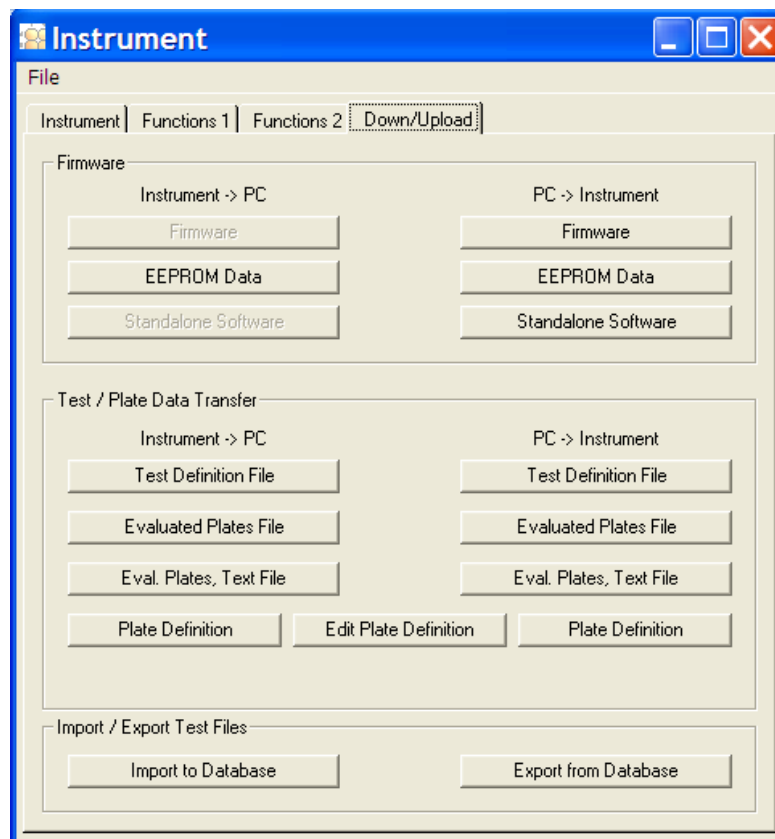

Figure 5-3: Down/Upload – Test definition transfer options
3. Choose **Down/Upload** (Figure 5-3).